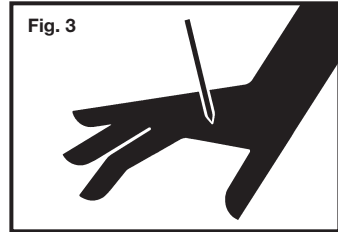

Fig. 3
5. Never point tool at yourself or others in work area. Serious injury or death may occur if the tool is activated. Fig. 3